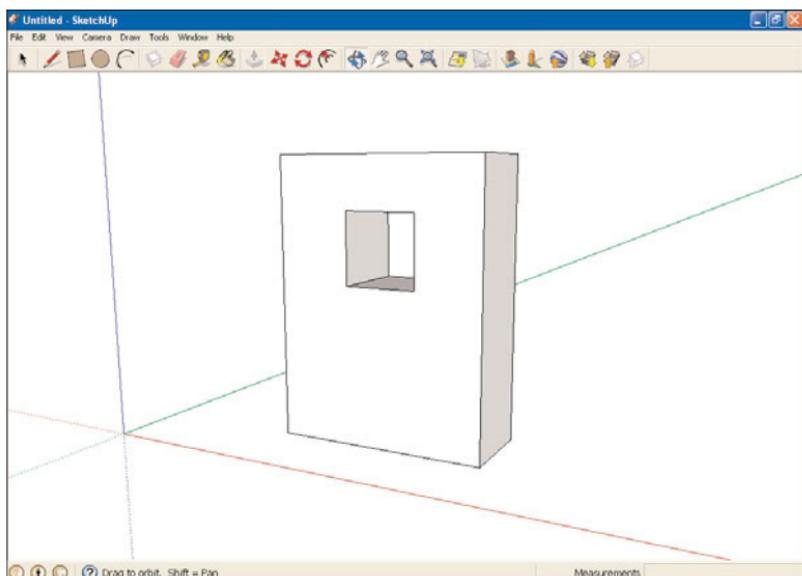

FIGURE 5.11 A 3D wall with a window.
5. Push the window outline through the wall to the other side. The part you've pushed disappears, leaving a cutout, as you can see in Figure 5.11.